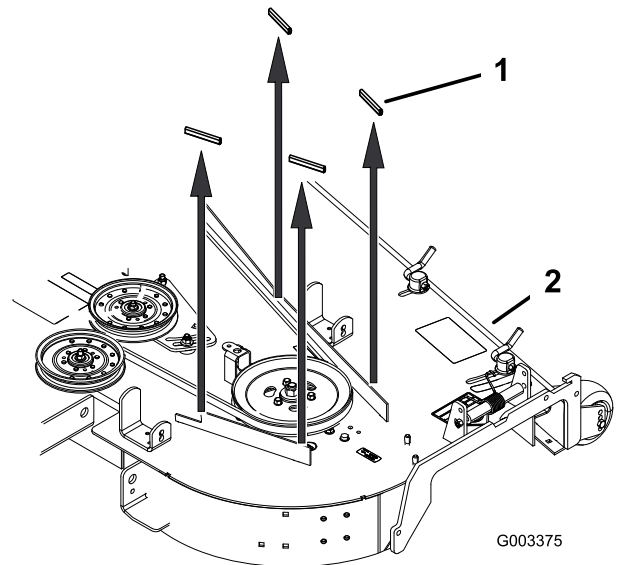

Figure 4
5. **For 72-inch mower decks only**—remove the 4 rubber stops from the mower deck (Figure 4).